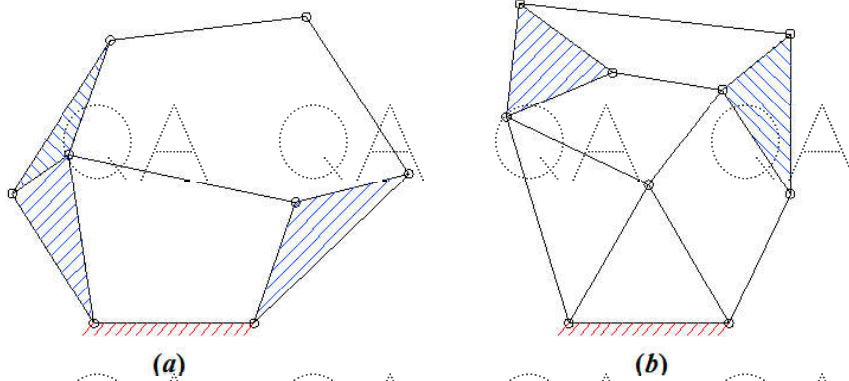

Fig.2
3.a) For the kinematic linkages shown in Fig.2, determine the degrees of freedom.